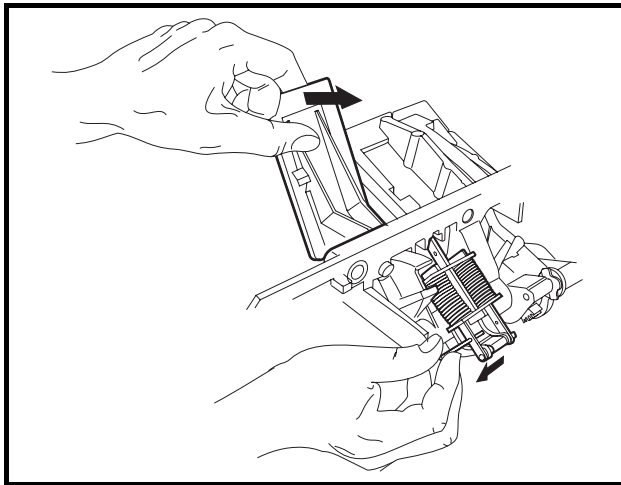

Figure 5-7 Accelerator Spring Pin Removal
4. Push accelerator pedal forward to compress the springs in the assembly. While the springs are compressed, pull pin from both T-shaped bars then release the pedal (**Figure 5-7, Page 5-6**).